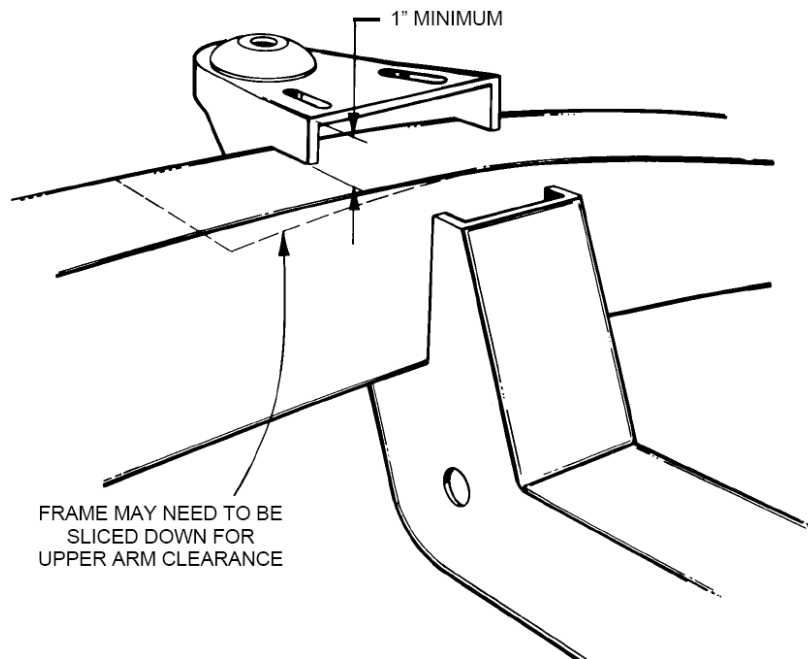

Figure 6- Trim to Fit Spring Towers
8. Now go ahead and start to cut the spring towers to fit. This is the most difficult part, and may take a couple of cuts and some fitting. If your measurements show that the back of the spring towers need to be cut so it is thinner than 1", then you will either have to raise the entire crossmember and spring towers and reconsider the ride height you have selected, or slice off some of the top of the frame and box it in. You will need that 1" minimum height for clearance for the rear part of the upper control arm (See **Figure 6**). **Note: it is OK to do this much major modification to a frame, as the frame that remains within the crossmember will still be plenty strong, and the nice ride you will have will be worth all the work.**